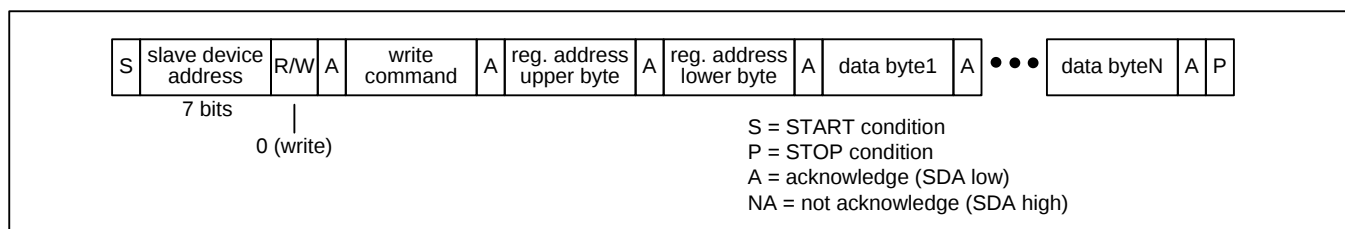

Figure 9 - I²C Register Write Transaction Functional Timing
Register Write Transactions. The device registers are accessible when the EESSEL bit is 0. The bus master does an I²C write to the device. The first three bytes of this transaction are the SPI Write command (see Table 3), the upper byte of the register address, and the lower byte of the register address. Subsequent bytes are data bytes to be written. After each data byte is received, the device writes the byte to the write address and then increments the write address. The bus master terminates the write with a STOP condition (P). See Figure 9.